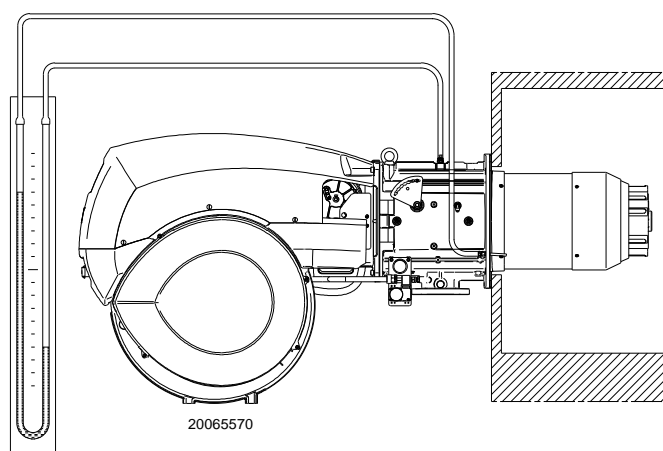

Fig. 24
- Fit a U-type pressure gauge or a differential pressure gauge (Fig. 24), with socket (+) on the gas pressure of the pipe coupling and (-) in the combustion chamber.
The arrival of gas at the pipe coupling is indicated by the U-type pressure gauge (Fig. 24).